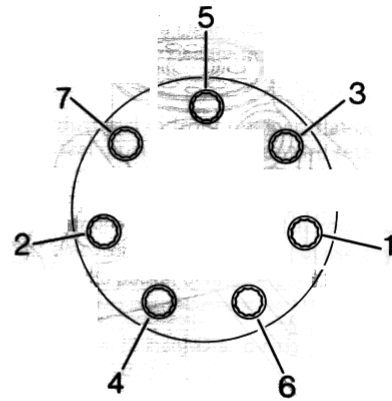

Figure 22
- 20** Install 7 lubricated cap screws. Pretighten screws to 20-27 Nm [15-20 lb-ft], then torque screws to 100 Nm [75 lb-ft] in sequence, see Fig. 22.